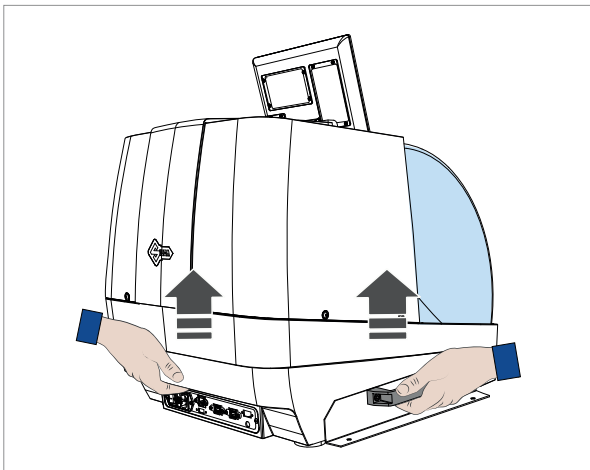
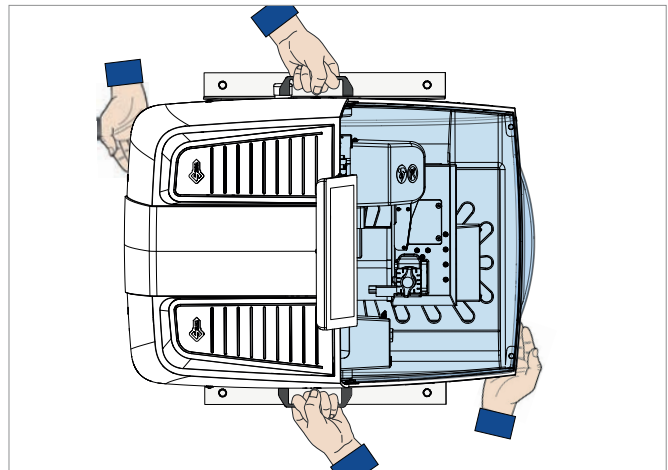

Fig. 20
Fig. 21
**ATTENTION:** lift the machine using the handles and by holding the rear and front of the base (Fig. 20 and Fig. 21).